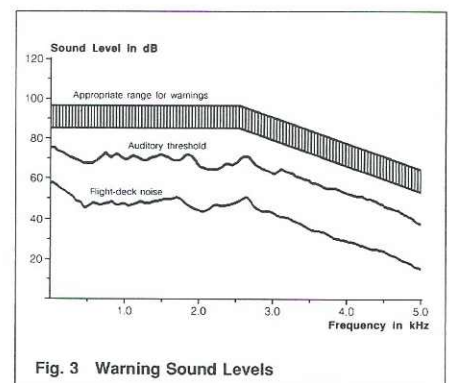
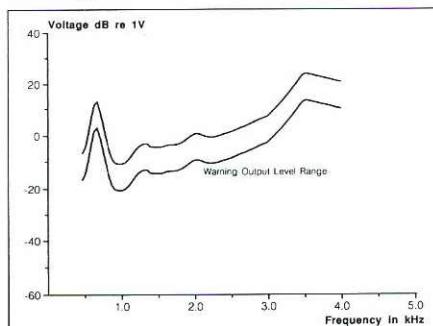
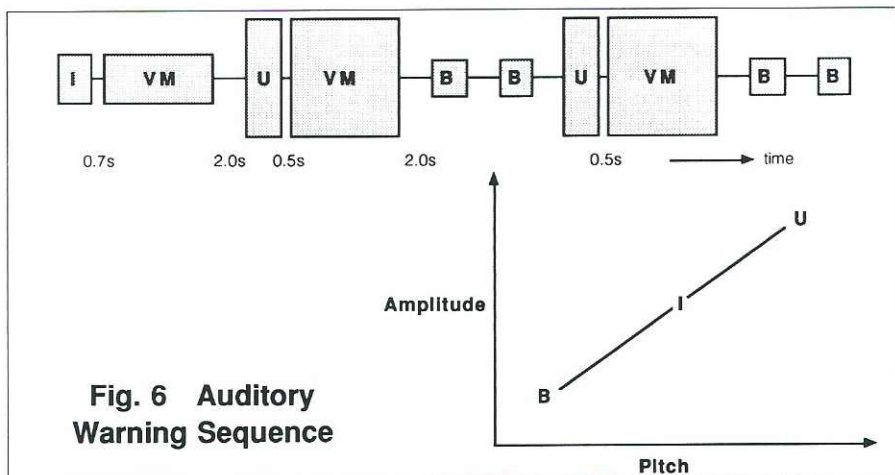

Fig. 3 Warning Sound Levels
Fig. 5 Sea King Warning - AVAD Output
Fig. 6 Auditory Warning Sequence
The overall benefits in terms of sfc saving are shown in Figure 3, which compares the improvement in specific fuel consumption (sfc) for the 535E4 engine's wide-chord fan with the performance using a snubbed fan and separate hot and cold nozzles. The sfc improvement is more than four per cent at maximum cruise and climb thrusts.
To ensure reliable detection and recognition, but to avoid startle and auditory overload, the warning sound level should be set between 15 to 25dB above the masking noise threshold, which can be calculated from a measurement of the cockpit noise spectrum, as shown in fig. 3. Once the required warning spectrum has been defined, the AVAD signal output, as a function of frequency, can be set to allow for the response characteristics of either the aircrew headset earphones or the cockpit loudspeaker, ensuring that the correct warning sound actually reaches the crew's ears. As an example, fig. 4 shows the sound level requirements for a Sea King helicopter audio warning, and fig. 5 shows the resultant spectrum shaping that should be applied to the AVAD tone output to allow for the frequency response characteristics of an RAF flying helmet. Tone and voice messages can be assembled to form auditory warning sequences, comprising, for example, as illustrated in fig. 6 an initial (I) attenson, followed by a voice